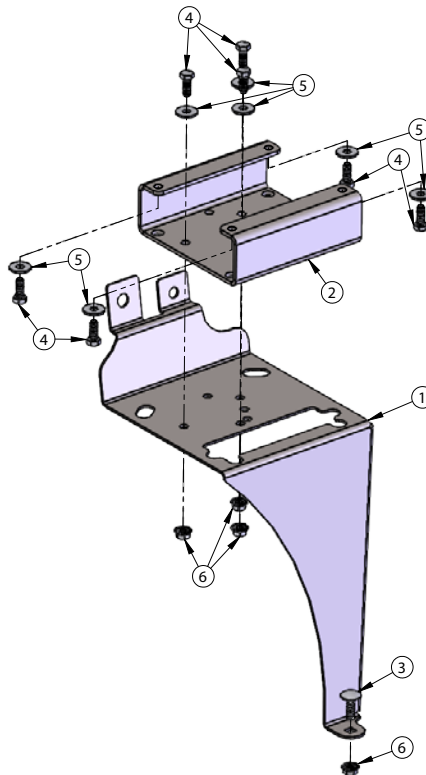

Figure 5
7. If using a Warn Zeon-10 you will need to use the additional riser bracket (fig. 5).